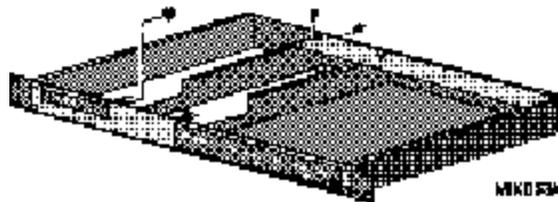

Figure 2. Install the Option Card Bracket
7. Insert and tighten the screws removed from the back panel, and from the Back Panel PCB. Place a nut on the threaded stud and secure the bracket to the front panel. (See Figure 2.)